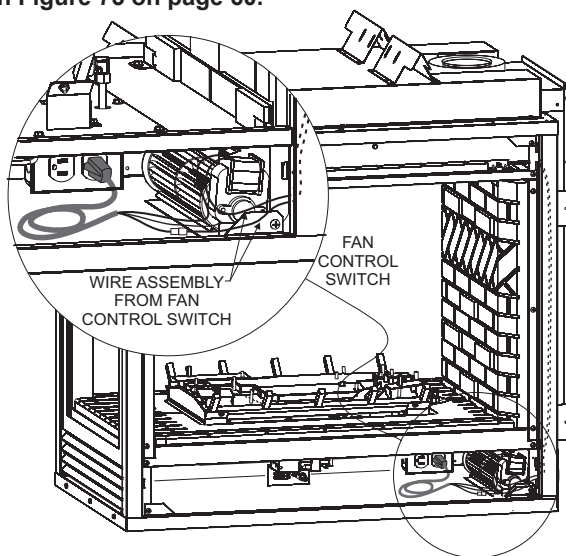
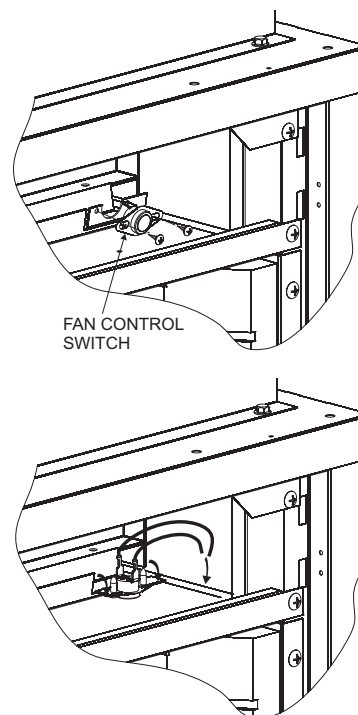

Figure 71
Figure 72
To install the blower kit or access the junction box, remove lower louver as illustrated by **Figure 71.**
4. Insert blower assembly into interior, bottom of fireplace. **NOTE:** On peninsula models, the blower must be installed at the end which has the brick panel installed. Position blower assembly so that you align the notch on back of blower assembly with the center screw on side/end panel, then push the blower assembly against fireplace outer panel. The blower wheel must be centered with the side/end wall of the fireplace. The magnets on the back and bottom of blower assembly will sufficiently hold blower assembly in place. **See Figure 71.**
5. Once the blower assembly is in position, remove the upper louver as shown and locate the switch tab (end of support channel) on top of the firebox. Install the fan control switch by first removing the two pre-installed screws in the tab, then secure the fan control switch to the tab. **See Figure 72.** Once the fan control has been secured, bend the tab forward so that the face of the fan control is pushed down so it contacts the firebox top.
6. Next, find the fan control wire assembly. Feed the wires over the top of the firebox. The fan control wires will slide down between the firebox and outer wrap near the blower assembly. **See Figure 71. Attach the two 3/16" wire terminals to the fan control switch as shown in Figure 72. Attach the wire terminals at the blower as shown by letters "A" and "B" in Figure 75 on page 60.**